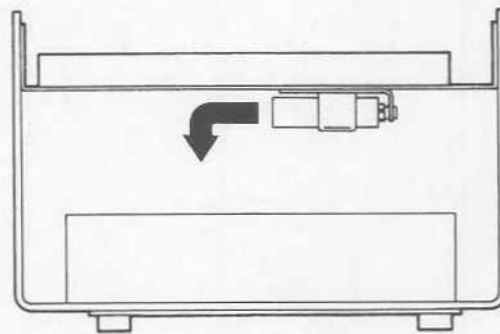

Figure 4-3
3. The battery mounting clip is located underneath the circuit board plate, (Figure 4-3). Pry the battery out of the clip and install the replacement. Use only a 7.2 V rechargeable battery for a replacement. Stock No. 1502-3016-000.